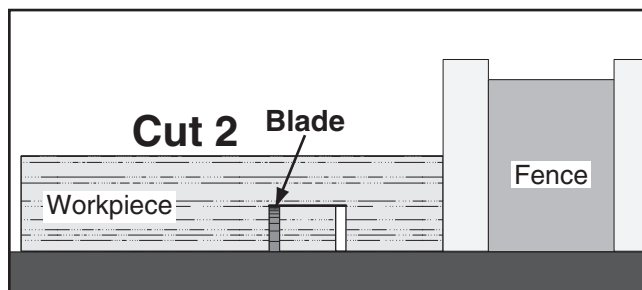

Figure 80. Second cut for a single-blade dado.
8. Repeat the cutting operation on the other side of the dado channel, as shown in **Figure 80**.